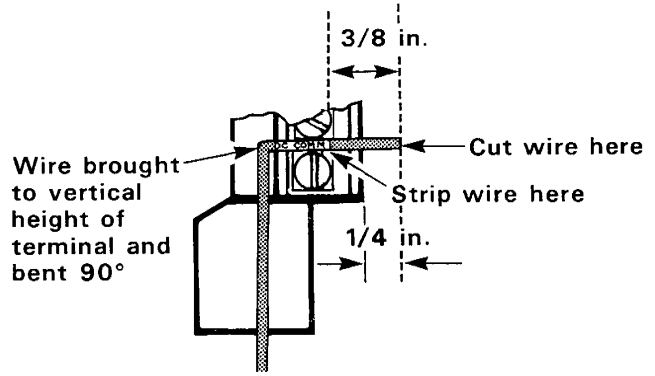

Figure 3.32 – Wiring a Terminal
- **Step No. 8** — At the point where this wire is at the vertical height of the terminal screw, bend it to the right at approximately a 90° angle. (Refer to Figure 3.32.)
- **Step No. 9** — Cut the wire where it extends approximately 1/4 inch beyond the edge of the Field Wiring Arm. Strip approximately 3/8 inch of insulation from the wire. (Refer to Figure 3.32.)